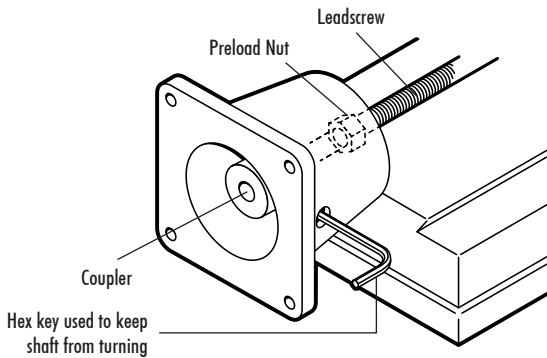
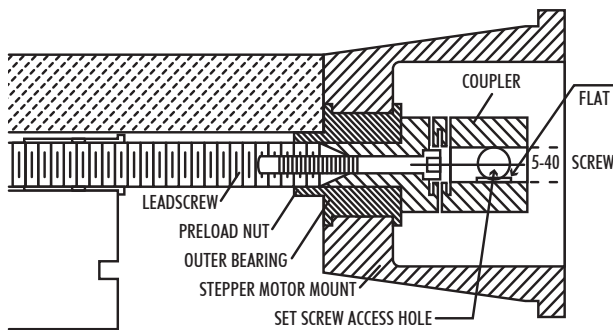

FIGURE 2—Using a hex key to keep the leadscrew from turning while tightening the 5-40 screw and preload nut.
FIGURE 3—A cross-section of the stepper motor mount shows how the coupler is attached to the leadscrew.
4. Using a 3/8" wrench, adjust the preload nut snugly against the end of the bearing. Tighten to remove all endplay. (See Figure 3 to understand how the nut preloads the bearings.) Turn the coupling by hand to make sure it turns freely, then put a little LocTite® on the threads behind the preload nut and let capillary action draw the fluid in. Figure 2 shows how to use a hex key through the hole in the mount to keep the coupler from turning while tightening the preload nut.